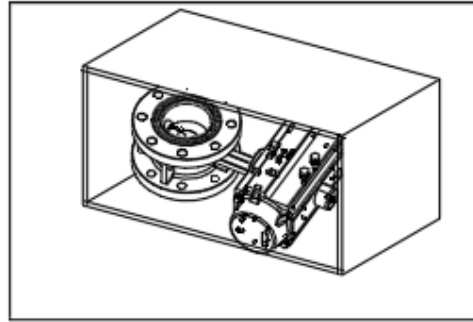

FIG. 4 . PROPER COVERED STORAGE
- 5.2.2. Valves shall be stored in an indoor/covered area which is dust free, dry, well ventilated to protect from rain and storm. We recommend storing the valves indoors in a dry and dust free atmosphere with temperature range 4°C to 29°C to avoid collection of water droplets on the valve surface (Refer to Fig. 4). Polymer and elastomer parts should not be stored in the presence of sunlight or artificial light with high ultraviolet content, or any source of radiation as these are primary causes of aging.